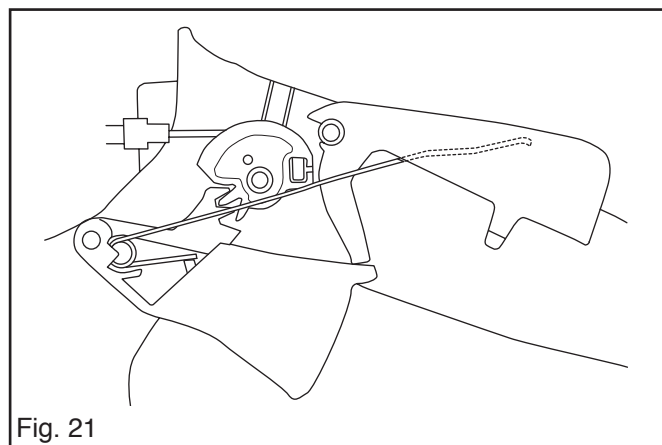

Fig. 21
5. Fit the hand grip insert with a screw, when the throttle, lever, throttle cable and throttle lock with spring are correctly fitted. See fig. 21.